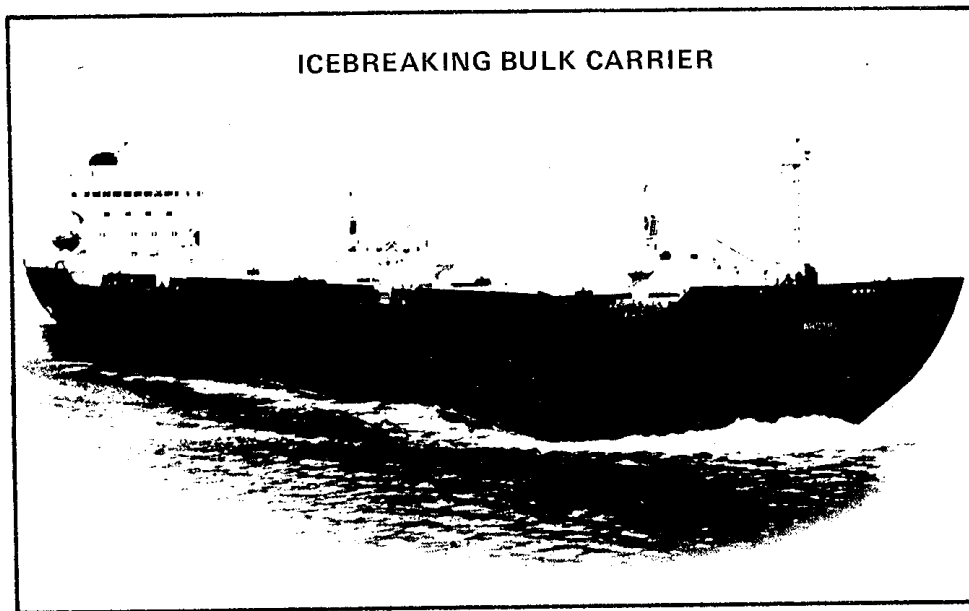

Figure 8-71 Icebreaking Bulk Carriers
- f. **Icebreaking Bulk Carrier** — A recent development is the **ice-breaking cargo vessel**, specifically-built to carry raw materials from the rich deposits of the arctic. These have been relatively untapped up to the present because of the difficulty of getting the product out to the southern markets. A Canadian-built bulk carriers, the M.V. **Arctic**, is already in service (Figure 8-71) and a Canadian liquified natural gas (LNG) carrier is being designed. The Soviet Union has already made considerable progress in this field, which is obviously of vital importance to Canada.